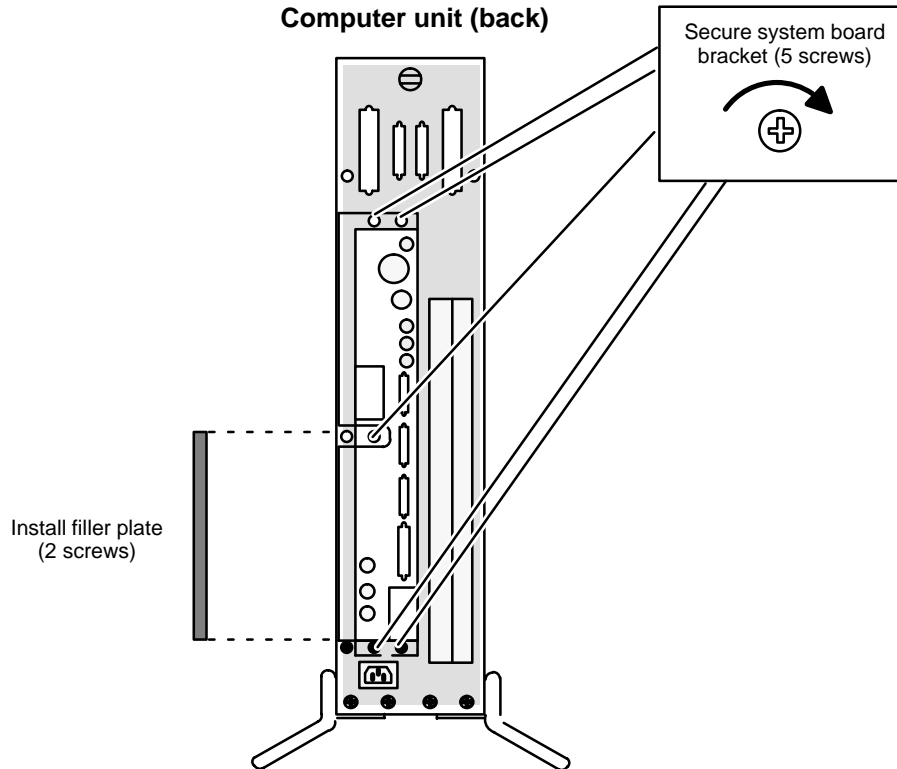

Figure 10-14 Securing the System Board Bracket to the Back of the Computer Unit
- Using the small Phillips screwdriver, secure the system board bracket to the back of the computer unit with the five screws as shown in Figure 10-14.
- Reinstall the rear panel filler plate as shown in Figure 10-14.